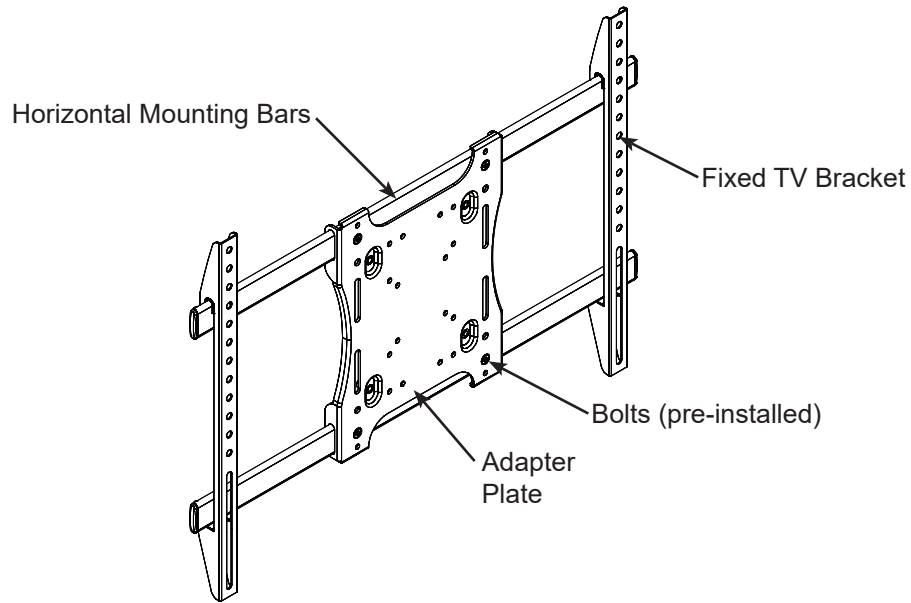

Figure 2
1. Slide the fixed TV brackets onto each end of the Horizontal Mounting Bars (Figure 2).